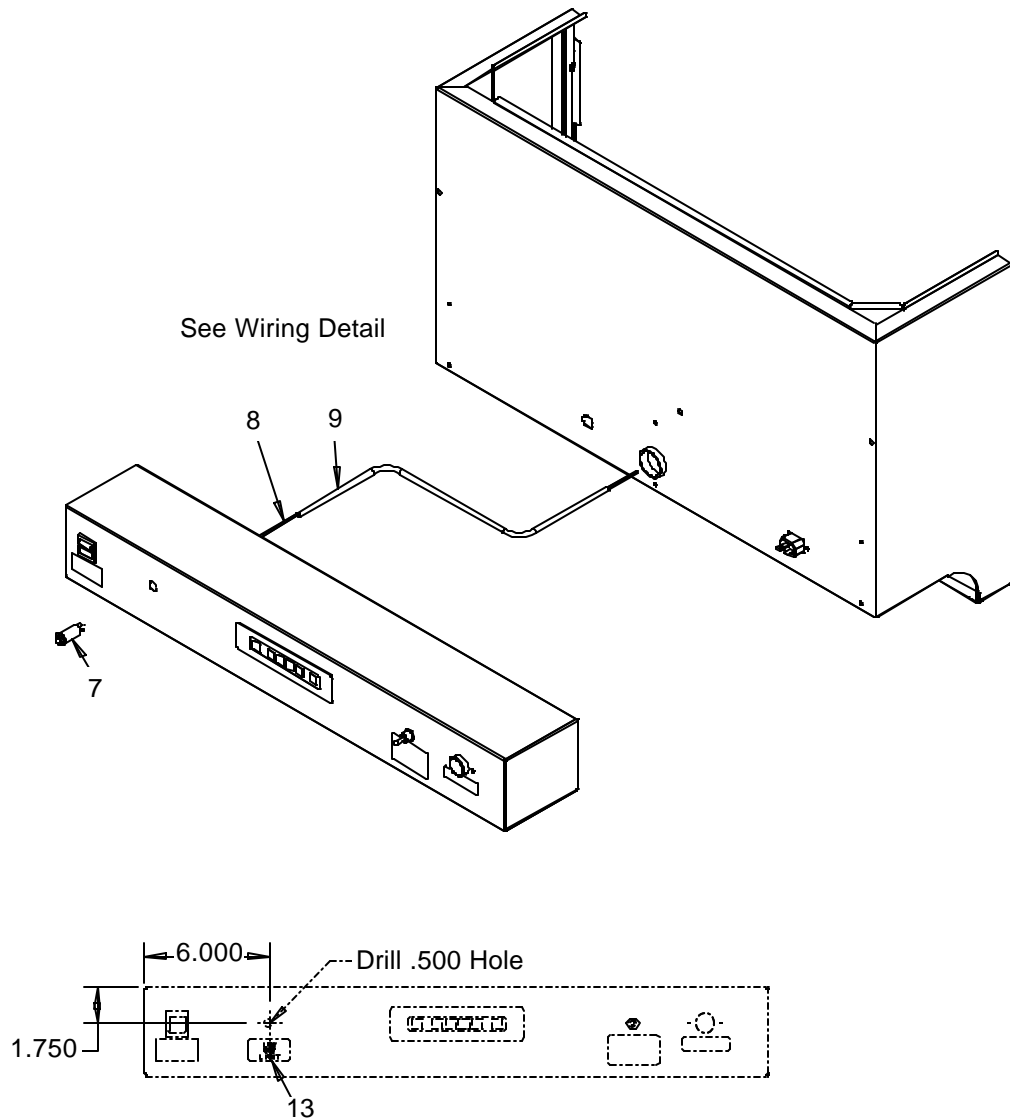

Figure 2.
4. Refer to Fig. 2 for installing the CO2 indicator light on the upper front panel. Remove the lid and straw holder by loosening (3) screws at the "key-holes" and lifting up to clear the screw heads. Remove the lower front ice portion control enclosure (4 screws) and disconnect the electrical harnesses as needed for reworking the enclosure. Locate and drill a 1/2 in. diameter hole in the enclosure as shown in Fig. 2 for the indicator light. Insert the light from the front and "snap" into the mounting hole.